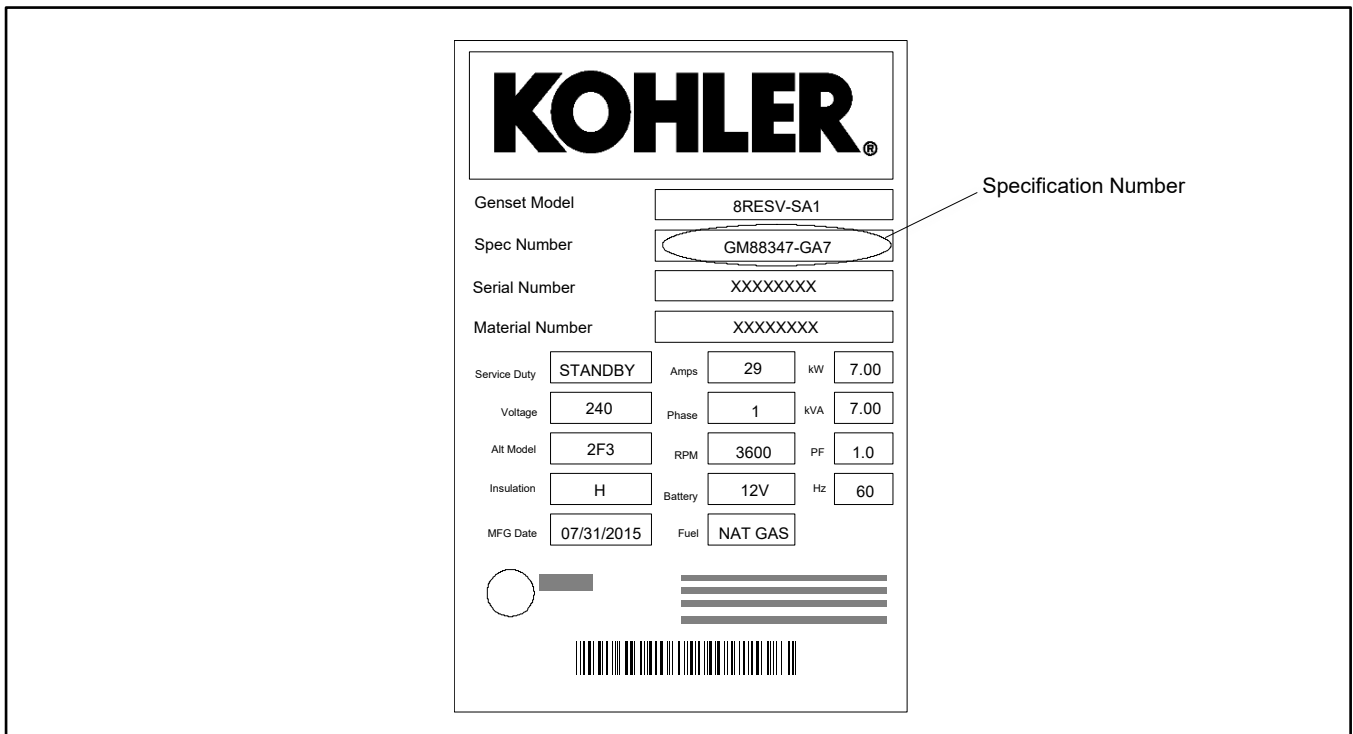

Figure 4 Name Plate
The reduced minimum clearance from a structure contained in ADV-8774 and ADV-9739 only applies to generators that are compliant with clause (2) of section 4.1.4 of NFPA 37. To verify that the generator is compliant, check the **Specification Number** located on the generator name plate. See Figure 4. If the name plate displays one of the following specification numbers, then the generator is compliant with clause (2) of section 4.1.4 of NFPA 37 and the reduced clearance in ADV-8774 (the Dimension Drawing ADV-8774, Sheet 3 figure) and ADV-9739 (the Dimension Drawing ADV-9739, Sheet 3 figure) will apply.